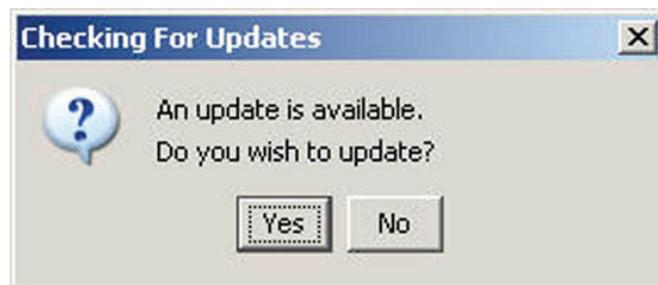

Figure 1 Checking for Updates
2. If an update is available, the Checking for Updates dialog box appears, as shown in Figure 1.